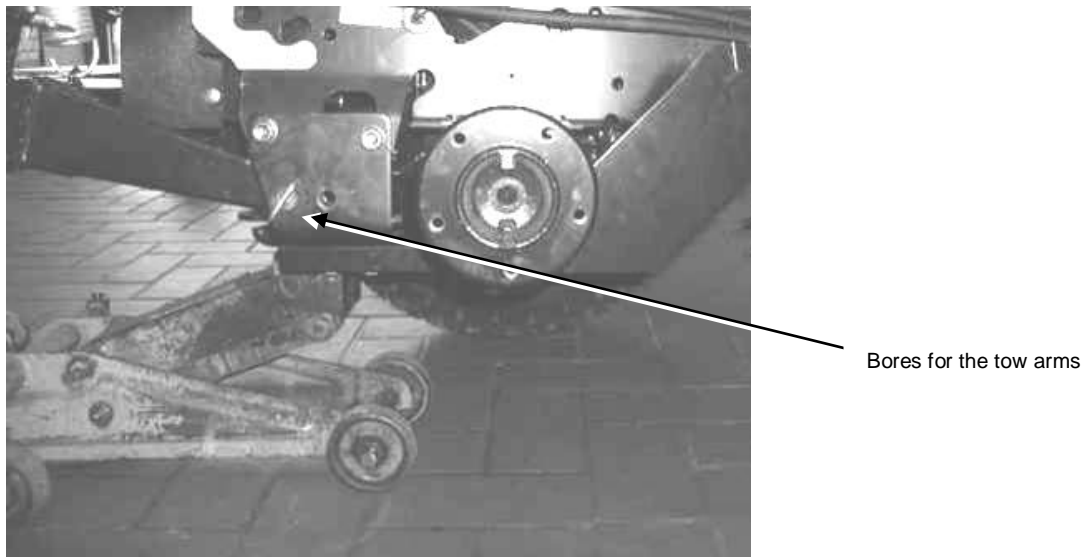
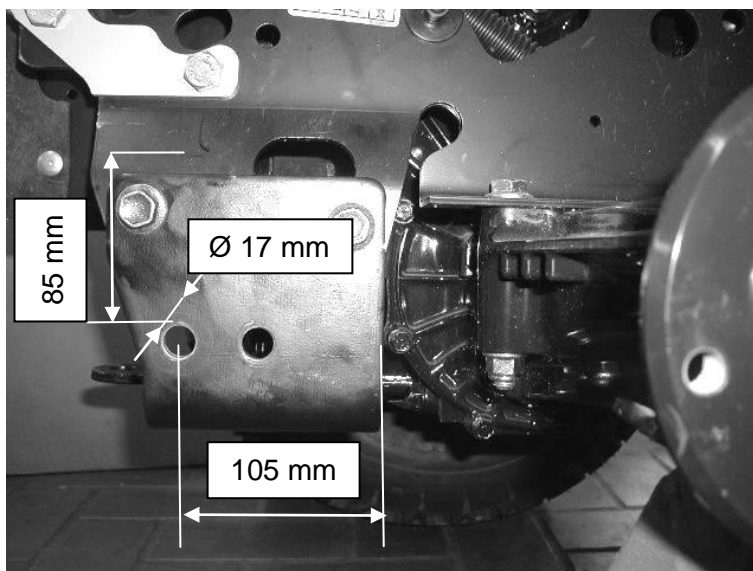

Fig. 4: Bore for tow arm
Fig. 5: Bores for the tow arms (dimensions shown)
4. On both sides of the tractor frame drill the two mounting bores ( $\varnothing$  17 mm) for the tow arms (6) (see Fig. 4 and Fig. 5).